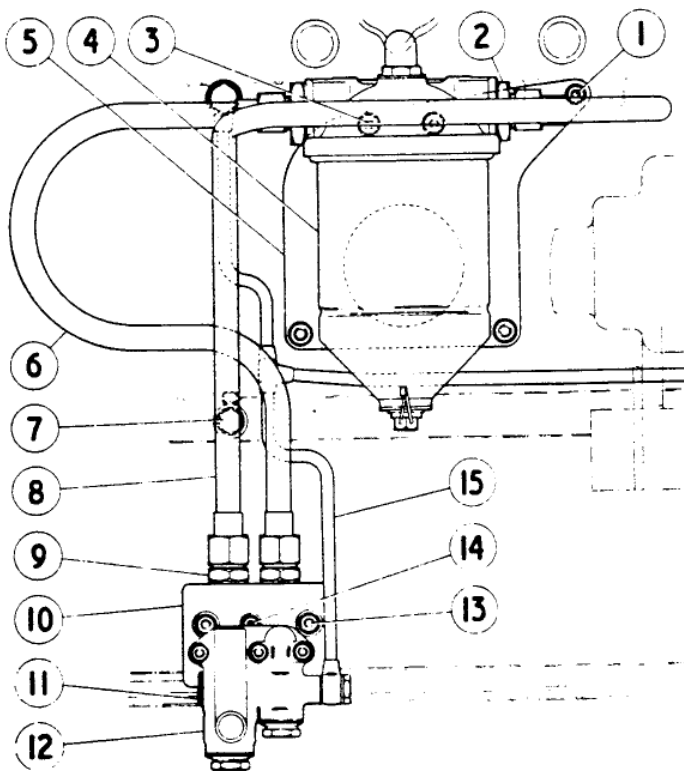
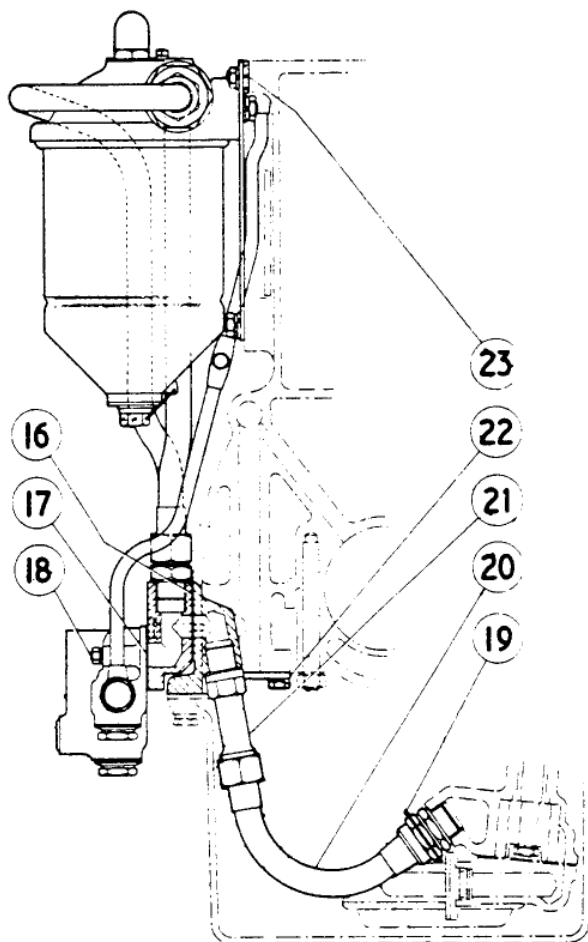
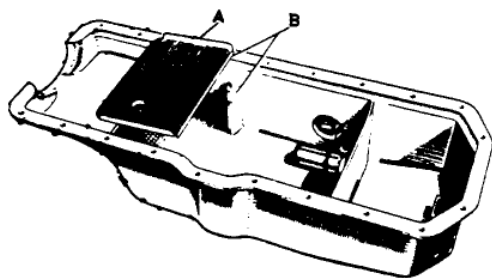

FIG. 9. FRONT ELEVATION - FULL FLOW OIL FILTER.
FIG. 10. END ELEVATION - FULL FLOW OIL FILTER.
FIG. 11. CRANKCASE LOWER HALF.
The hole should be tapped sufficiently to allow the threaded end of the pilot of the spot facing tool, R-4670 to be a 'feel' fit when screwed into position, this will also allow the threaded end of the stand pipe, (21 Fig.10) to be a similar fit, i.e. not tight or slack, when fitted. As the wall thickness of the hole may vary from engine to engine, the reaming and tapping operations should be carefully carried out.
NOTE: In the unlikely event of the lug having been machined back on an engine prior to 'H' series chassis, then it will be necessary to fit the circular distance piece (23 Fig. 10) interposing it between the filter mounting plate and the lug when fitting the mounting plate and filter assembly to the crankcase as described in Sub-para. xv.
- (vii) After removing ALL TRACES OF SWarf from the crankcase, blank off the original vertical oil feed hole to the oil gallery inside the crankcase by fitting the cover, 22 Fig. 10, securing it with the two setscrews and lockwashers. Thoroughly clean internally all oil pipes.
- (viii) Fit the standpipe (21) and joint washer to the .750" dia. tapped hole in the crankcase. With the oil pump in position, fit the new oil feed pipe (20), securing the union nut (near pump) with the existing locking plate (19). SET NEW PIPE IF NECESSARY TO AVOID
- (x) Fit the three studs, 18 (2-BA x 1.600" long) to the transfer block (10 Fig.9), also the two adaptors (9) and joint washers. Place the block complete with its Vellumoid joint R-4497, on to the crankcase.
- (xi) Remove the union from the oil relief valve unit and fit the core plug (11) and joint washer. Place the unit and the Vellumoid joint (EB-3953) on to the transfer block. While tightening up the three nuts to secure, check that the end of the centre stud (14) or nuts securing the transfer block to the crankcase do not foul the casing of the oil relief valve unit. The unit is inverted for fitting under this arrangement as shown in Fig.9.
- (xiii) When offering up the lower half of the crankcase, it will be found that the union nut securing the oil feed pipe to the standpipe (21) fouls the oil baffle ('A' Fig.11) and the locating lug at points 'B'. Remove the baffle and file the lug until it just clears the nut and then file the edge of the baffle to suit. It may also be necessary to file the inside of the lower half of the crankcase to clear the nut. Refit the baffle.
- (xiv) With the crankcase lower half assembled to the engine, fit the low pressure oil pipe assembly, (15) and joint washers.
- (xv) Fit the two unions (2 Fig.9) and joint washers to the filter and attach it to the mounting plate by means of the two setscrews, (3) spring and plain washers. Fit the assembly to the crankcase. (See "Note" under Sub-para. vi of Para. 7, concerning the circular distance piece, 23 Fig.10). With a syringe, inject a recommended S.A.E.20 engine oil into the filter through EACH of the two unions until it is full, then connect the inlet and outlet oil pipes (6 & 8) to the transfer block and filter.
- a) Before starting up the engine, unscrew the union nut of the inlet oil pipe (6 Fig.9) from the union on the filter, and with a syringe, fully prime the pipe and then prime the oil filter. Reconnect the union nut.
Concerning Scheme 'B' of Service Bulletin No. BB-143 (Section E), it has been brought to our notice that in one or two instances the external inlet and outlet oil feed pipes, (6 & 8 Fig. 9 of Bulletin No. BB-143) to and from the Full Flow Filter have been reversed when fitting to the transfer block (10). This arrangement causes the filter element to collapse and block the oil flow.
It will be observed upon reference to Fig. 9, that the lower end of the inlet oil pipe (6) is connected to the right-hand side of the transfer block and the outlet oil pipe (8) to the left-hand side.